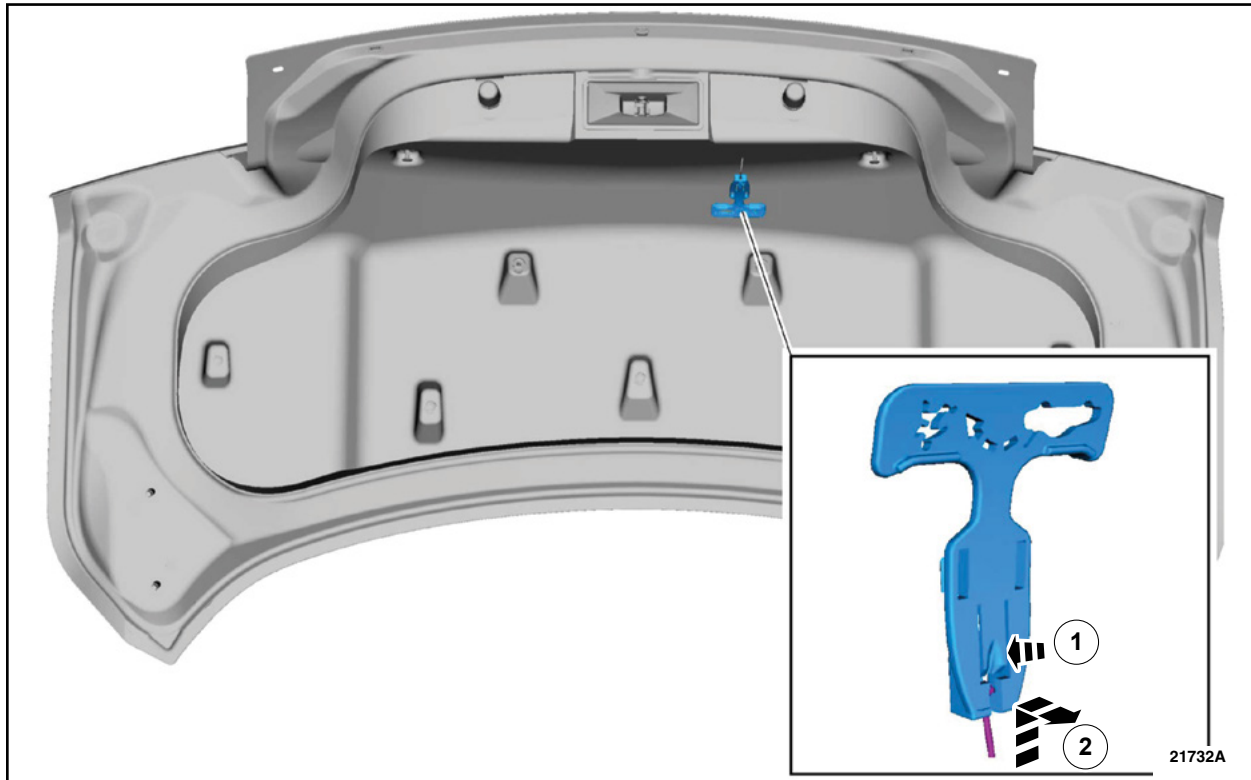

FIGURE 8
18. Remove the luggage compartment lid emergency release handle. See Figure 8.